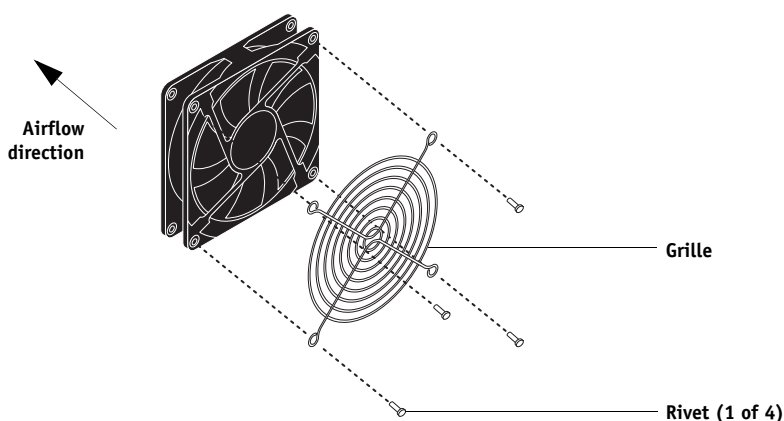

FIGURE 40: Installing the fan grille
1. If you are replacing the old back fan with a new back fan, remove the metal grille from the face of the new fan and reattach it to the opposite face of the new fan (see Figure 40).